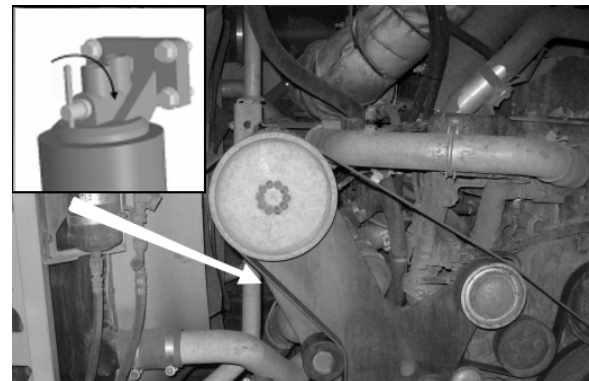

FIGURE 17: ACCESS TO FILTER SHUT OFF VALVE
1. Close the filter shutoff valve on the filter mounting head. The shutoff valve can be reached behind the fan pulley (Figure 17)